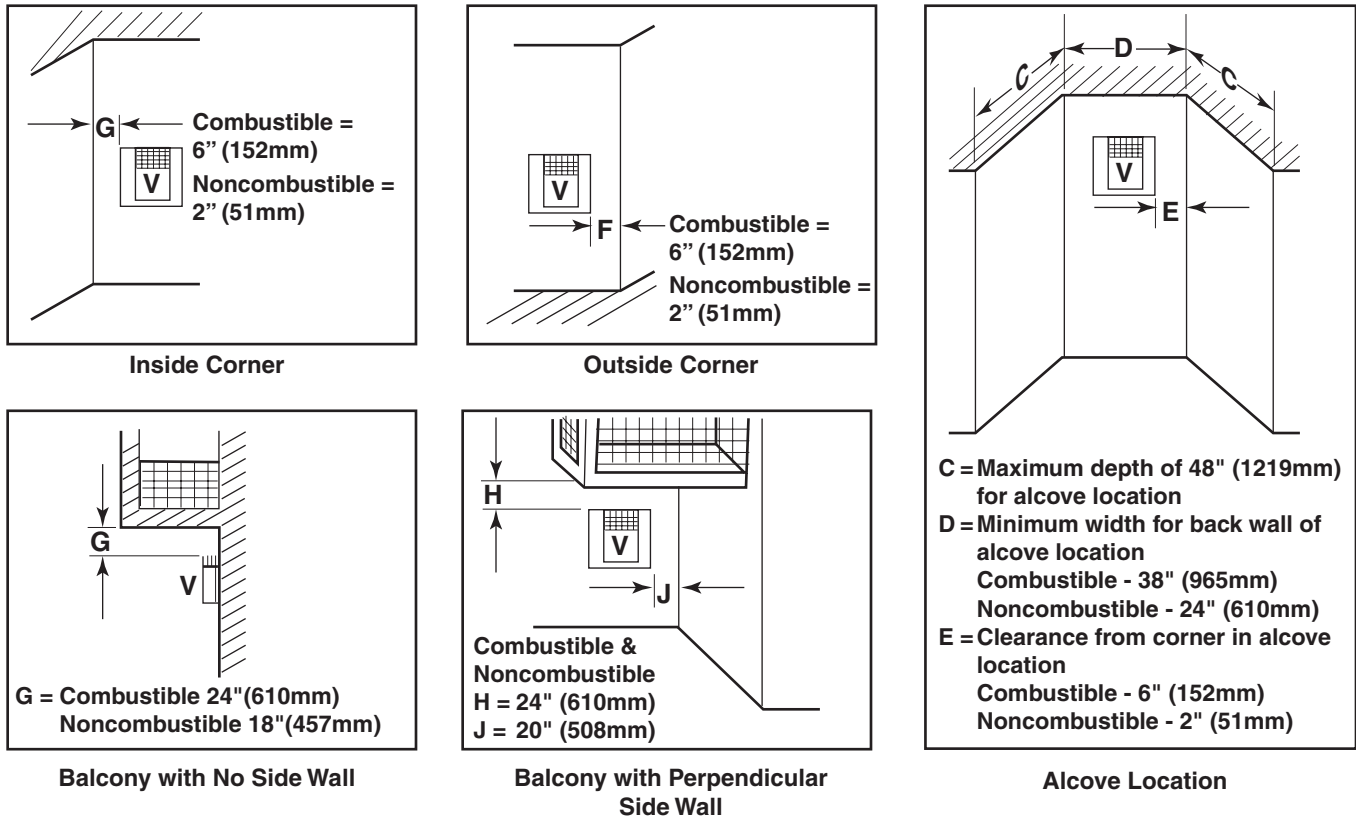

Figure 13 - Allowable Venting Chart
- D = Vertical clearance to ventilated soffit located above the terminal within a horizontal distance of two (2) feet (610mm) from the centerline of the terminal [18" (457mm) minimum].
- F = Clearance to an outside corner. *See Figure 13, page 17.*
- G = Clearance to an inside corner. *See Figure 13, page 17.*
- H = *Not to be installed above a gas meter/regulator assembly within three (3) feet (914mm) horizontally from the centerline of the regulator.
- M = Clearance under veranda, porch, deck, or balcony. **See Figure 13, page 17.** [For Canada *12" (305mm) minimum ***].